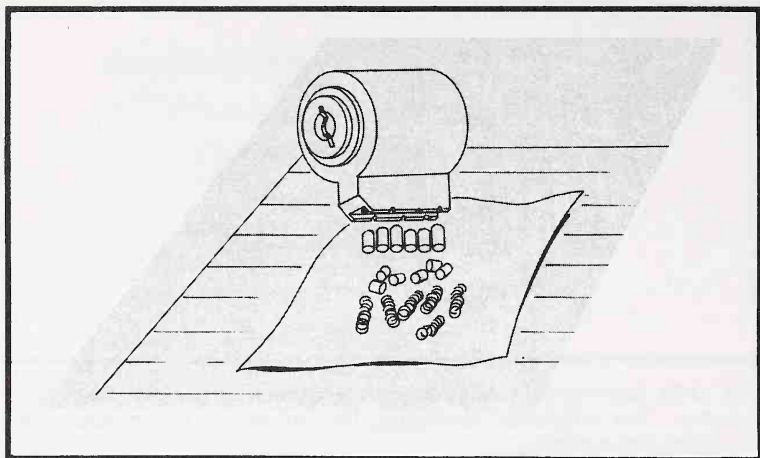

Fig. 13-23. After the slide is withdrawn, remove springs, pins, and drivers.
2. Remove the springs, drivers, and pins (Fig. 13-23).